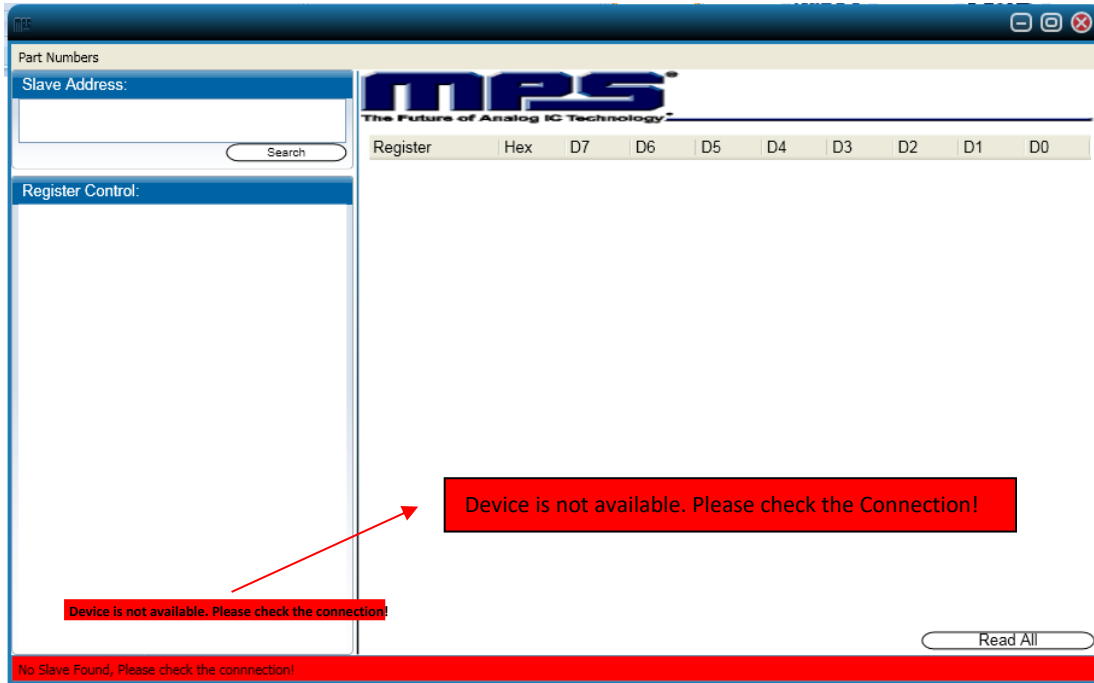

Figure 9: Warning Indicates Unsuccessful Connection – USB/I2C Communication Interface not Connected
- 2) “Device is not available. Please check the Connection!” This means that the USB I²C communication interface is not connected (see Figure 9).